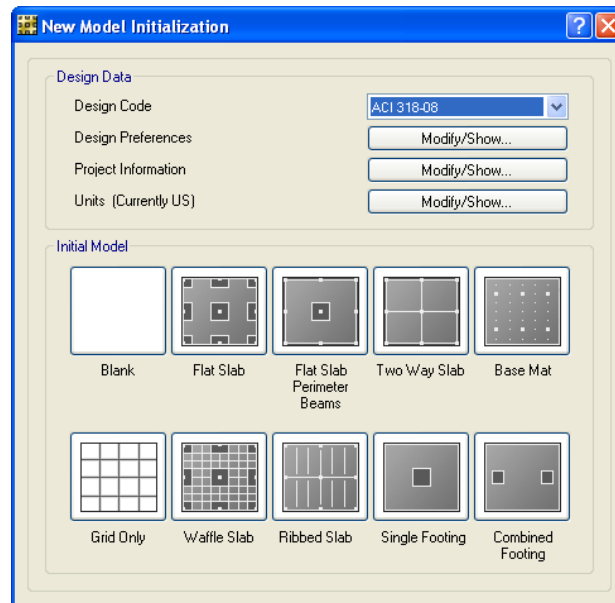

Figure 52 New Model Initialization form
- A. Click the **File menu > New Model** command to access the New Model Initialization form shown in Figure 52. This form is used to specify the starting point of the model creation: a Blank screen, a screen with a Grid Only, or one of eight templates. Default units may also be selected here, along with the design code and preferences.